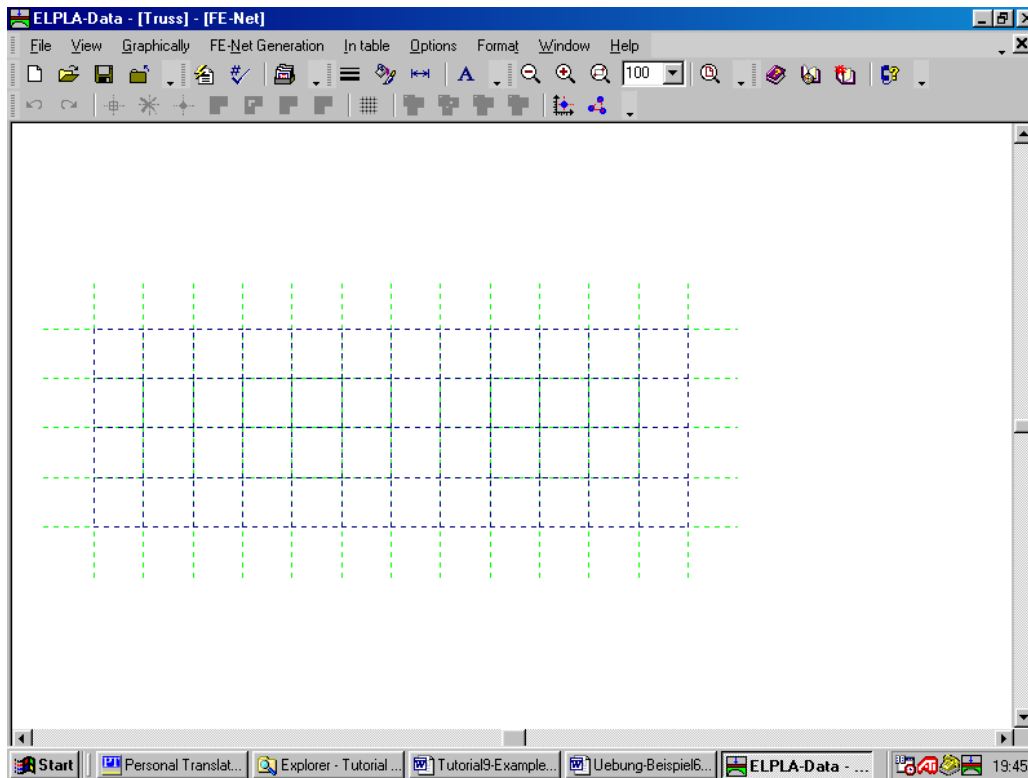

Figure 6-10 Imaginary net of a rectangular area on the screen
ELPLA will generate an imaginary net for a rectangular area of 12 [m] length and 4 [m] width with square elements of 1.0 [m] each side. The following embedded program in Figure 6-10 appears with the generated imaginary net.
- Choose "Save FE-Net" command from "File" menu in Figure 6-10 to save the data of the imaginary net
- Choose "Close FE-Net" command from "File" menu in Figure 6-10 to close "FE-Net" embedded program and to return to the main window of *ELPLA-Data*